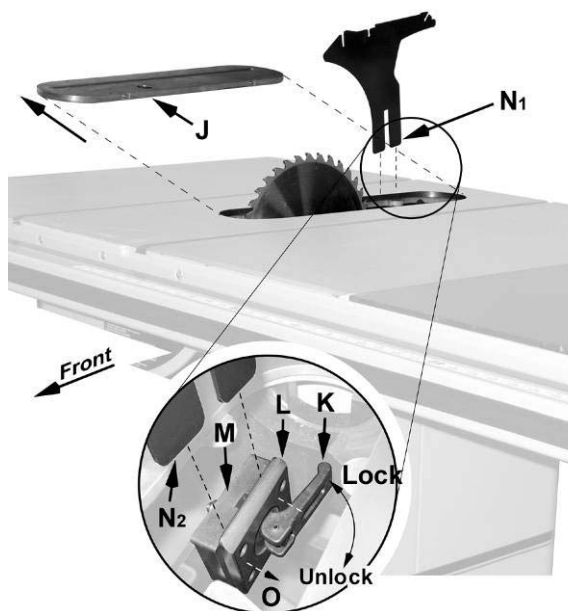

Figure 10
3. Press the *arbor lock* (D) in the direction shown by the arrow to engage it into the slot in the *arbor* (C). At the same time remove the arbor nut (loosen with a 27mm wrench if necessary).
4. Remove the *collar* (B).
5. Install the blade, making sure the cutting teeth at the top of the blade point toward the front of the saw. If unsure, refer to Figure 10 for the proper blade orientation.
6. Replace the collar (B) and arbor nut (A).
7. Engage the arbor lock (D) and tighten the nut (A) with a 27mm wrench.
Referring to Figure 10:
2. Remove the table insert (J).
3. Located inside the table and accessible through the insert opening (Figure 10 inset), place the quick-release clamp lock handle (K) in the *unlock* position.
4. The *floating clamp block* (L) is spring loaded and will move away (O) from the *fixed block* (M), leaving a gap.
5. Insert the bottom of the *riving knife* (N₁, N₂) all the way into the gap between the *clamp blocks* (L, M), then lock the handle (K).
6. Replace the *insert* (J) back on the table. The saw blade and riving knife should protrude through the slot in the insert.
The clamping blocks (L, M, Fig. 10) are adjusted at the factory and no further adjustment of the blade guard and riving knife assembly should be necessary. However, **proper alignment is very important**. Before operating the table saw, read the *Riving Knife Adjustment* section (p.18) to verify and follow the adjustment procedure if necessary.